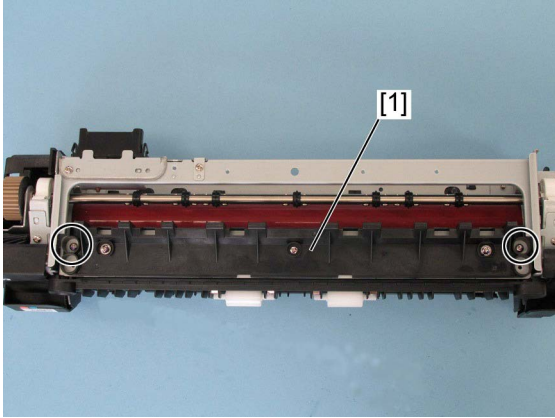

Fig.8-75
2. Adjust the paper entrance guide [1] of the fuser unit and check if the paper wrinkle disappears. (Fig.8-75)